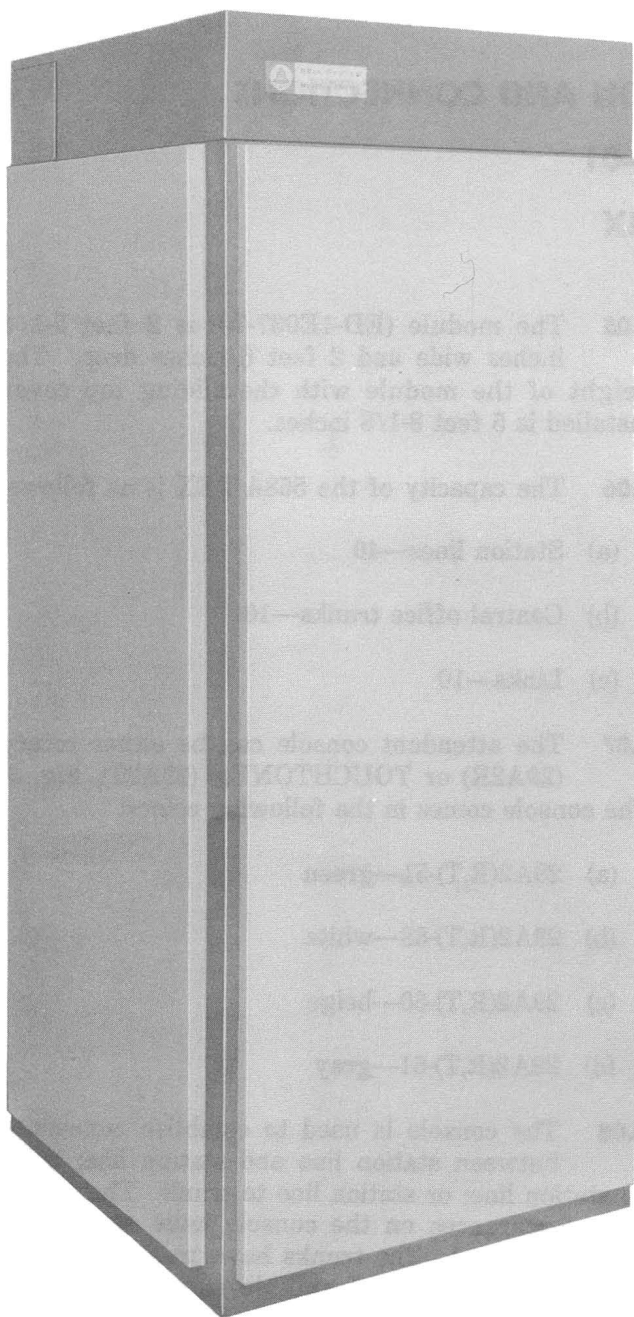

Fig. 1—Cabinet ED-1E037-70
**2.01** The 558A PBX is a console controlled small manual PBX. The switching equipment is housed in one module (cabinet), see Fig. 1.